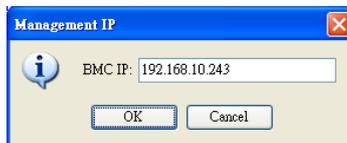

Figure 2-10. Updating the BMC IP
5. **BMC:** Shows BMC status. If BMC is installed, the BMC IP address will appear here. Use the Update button (Update) to update the BMC IP as shown in Figure 2-10. Use the refresh button (refresh) to reload the BMC IP. If BMC is not installed “not installed” appears and the Update and Refresh buttons are both disabled.